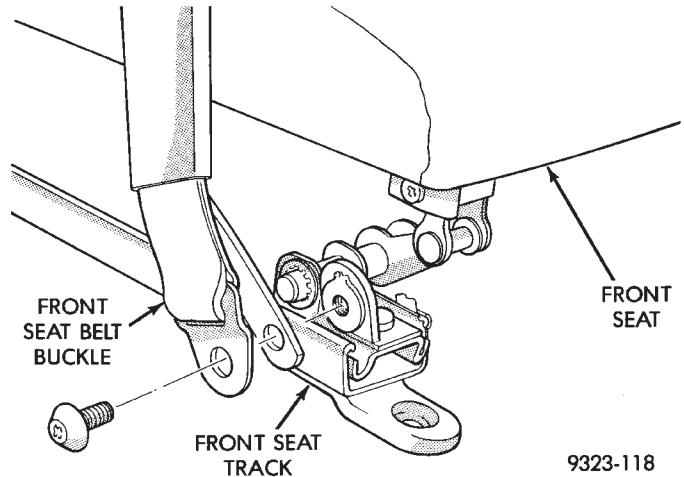

Fig. 62 Front Seat Belt Buckle—Typical
- (1) Remove front seat as necessary to gain access to seat belt buckle anchor bolt.
- (2) Remove bolt holding buckle and reinforcement to front seat track (Fig. 62).
- (3) Separate seat belt buckle from vehicle.